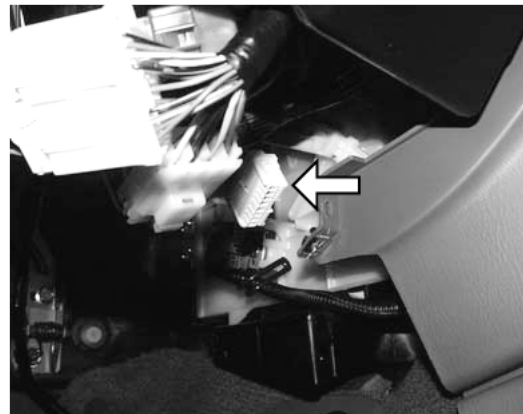

Figure 9
11. Locate the security module 18-pin (white housing) connector which is located at the inner right side (Next to the center console). See Figure 9.